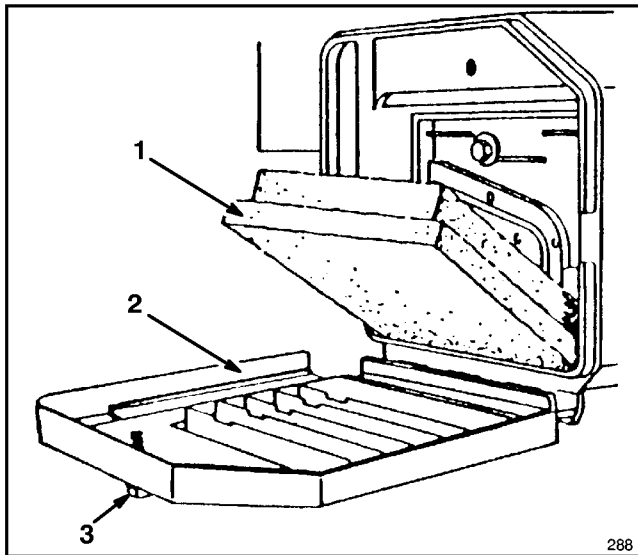

Figure 17
2. Rotate knob securing air cleaner cover to engine until cover can be removed. Clean cover thoroughly (Fig. 17).
3. If the foam element is dirty, remove it from air cleaner body (Fig. 17). Clean thoroughly.